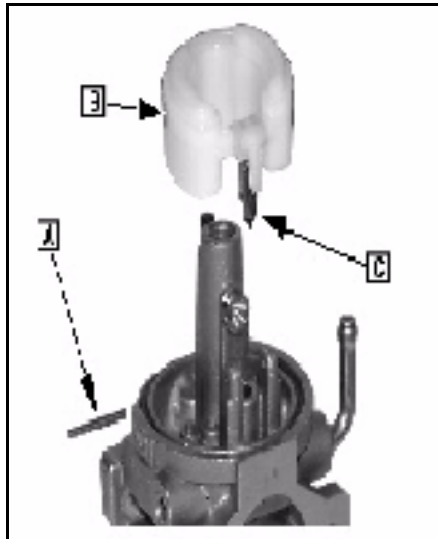

Fig. 110
2. Remove float hinge pin (A), carburetor float (B) and float needle valve (C) Fig. 110).